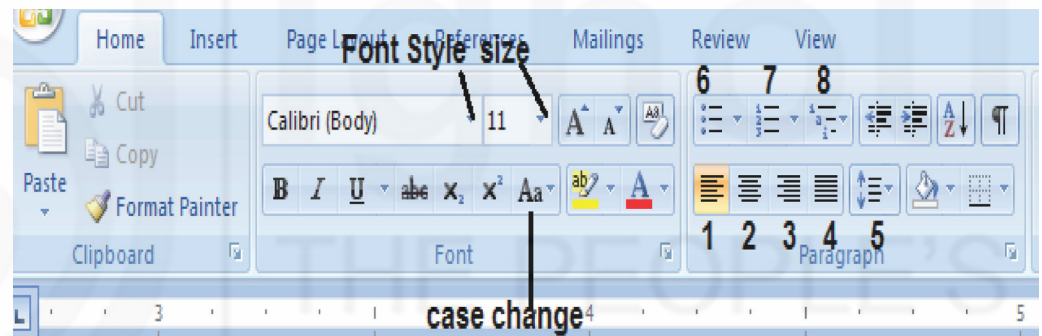

Fig.14.6
- Left click the drop down box of **Font styles** in the Home tab and pick whatever style you want and left click it. Your text will appear in that style (Fig.14.6).
- Select one of the commands from the paragraph group in the Home Tab (see Fig.14.6)
- (1) align to Left= all text aligned to the left margin ;
- (2) centre= all text aligned with equal distance to right and left margins
- (3) align to right= all text aligned to the right margin
- (4) justify= text aligned with equal right and left margins.
- For modifying line spacing select text that you want to modify (See Fig14.6)
- Click on Modify Line Spacing (number 5 in Fig.14.6) command in paragraph group in Home Tab.
- Click on the **Bullet** (6) or Numbering commands (7 and 8 in Fig.14.6) in the Paragraph group in the Home Tab